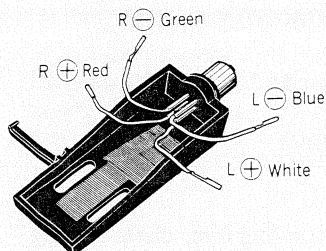

Fig. 4
- * The polarities and L,R channel of the lead wire of the head shell are shown in Fig. 4. The connection should be done according to the terminal indication of the cartridge.